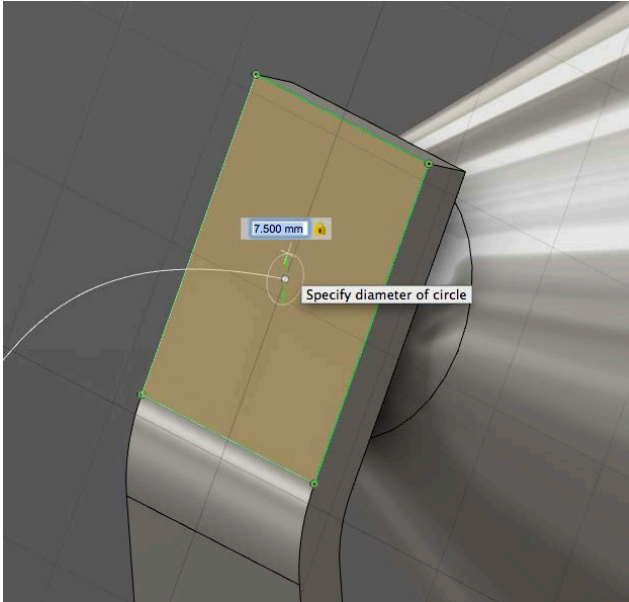

Fig. L18
21. Create another sketch at the top back face of the arm, sketching a circle at the center of the face about 7.5mm diameter (Fig.L18).